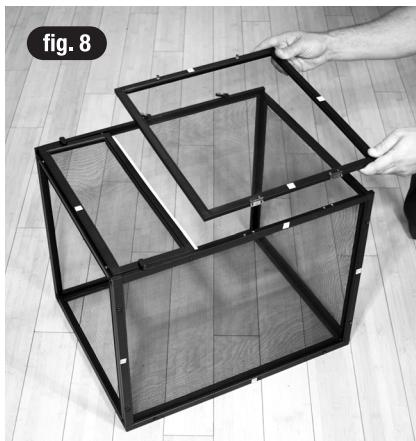

fig. 8
5. Attach UPPER MAIN DOOR (see fig. 8 and 9): Turn the assembly onto the back panel and set the Upper Main Door in place by matching the labels "A, H, and E." Use the four short screws to attach the hinges to the Right Side panel.